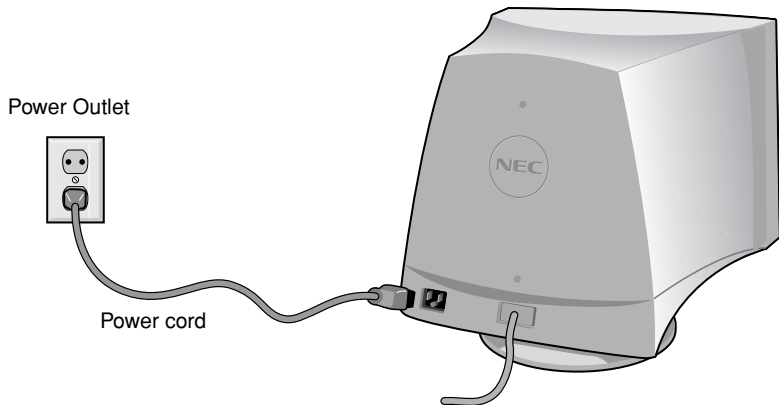

Figure C.1
4. Connect one end of the power cord to the MultiSync monitor and the other end to the power outlet (Figure C.1).